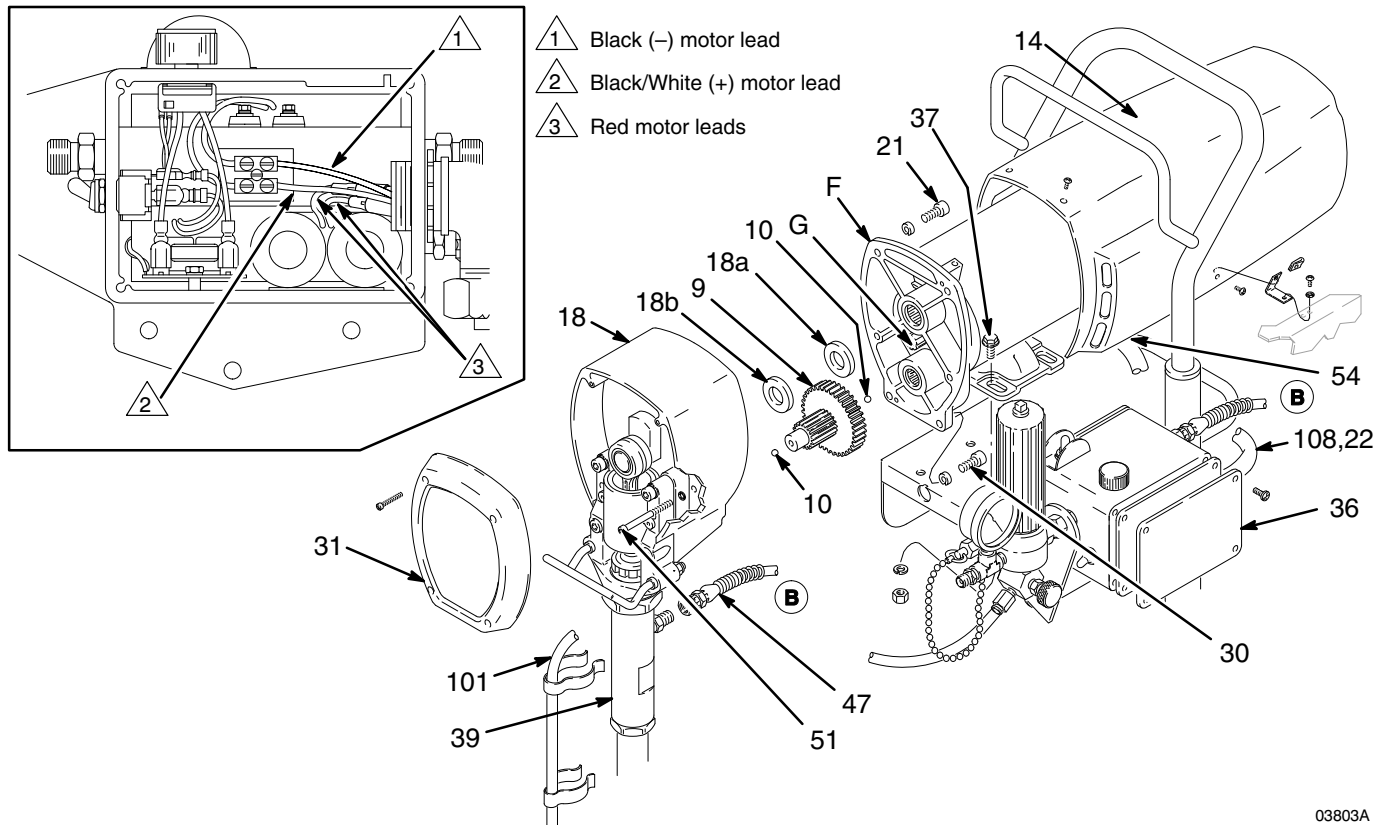

Fig. 24
**NOTE:** Refer to Fig. 24 for this procedure.
1. Remove the motor shield (14). Remove the front cover (31). Disconnect the hose (47) at the pump. Disconnect the drain hose (101) from the pump (39).
2. Remove the pressure control cover (36). Disconnect the four motor leads.
3. Unscrew the connector from the pressure control. Loosen the nut on the connector (108) and pull the motor leads out of the connector.
4. Unscrew the connector (54) from the motor and remove the conduit (22).
5. Remove the screws (51) from the recess of the drive housing.
6. Remove the screws (21 and 30) from the motor bell (F).
7. Use a plastic mallet to tap the displacement pump (39) from the rear to loosen the drive housing (18) from the motor bell (F). Pull off the drive housing.
8. Remove the screws (37) holding the motor to the frame. Lift off the motor.
10. Slide the connector (54) over the leads of the new motor and screw two or three threads of it into the motor. Tighten the locknut up to the motor.